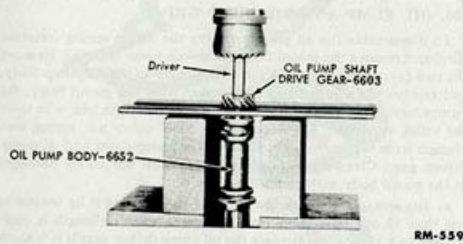

Fig. 43—Removing Oil Pump Shaft Gear From Shaft
(1) **REMOVE SHAFT.** Drive the pin out of the oil pump shaft gear and press the gear off the shaft (fig. 43). Remove the shaft from the oil pump body. Replace the shaft if the gear is worn, or if the shaft is bent, or if the bearing surface of the shaft measures less than 0.497 inch diameter.